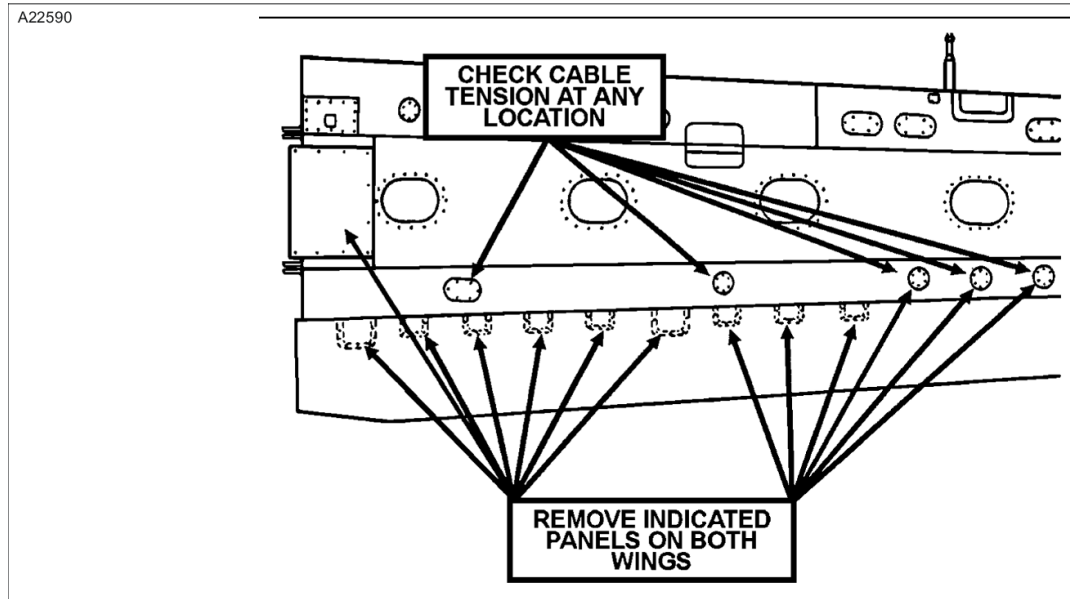

Figure 501
- (1) Remove panels and covers to gain access to flap components in both wings. (Refer to Figure 501)
- (1) Check and note cable tension of both flaps. With flaps UP the tension must be 35 pounds +5 or -5 pounds. (Refer to Figure 501 for tensiometer access locations).
- (2) Lower flaps in small increments to 10 degrees while monitoring cable tension. Minimum cable tension is 10 pounds between UP and 10 degrees.